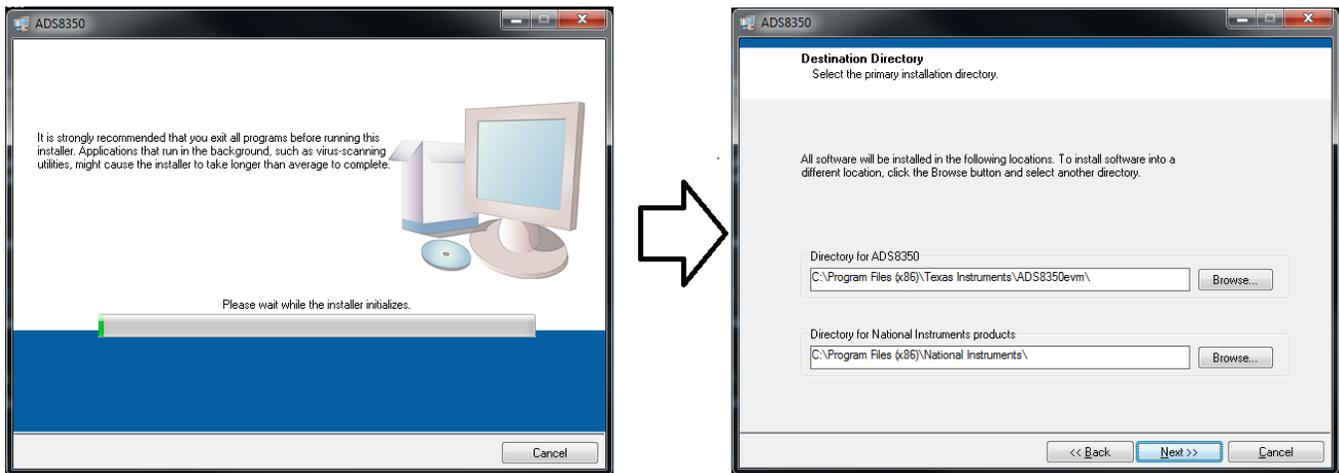

Figure 10. Welcome Screen and Destination Directory Screens
5. A prompt appears with the destination directory; select the default directory under: ...\\Program Files(x86)\\Texas Instruments\\ADS8350evm\\, as shown in Figure 10.